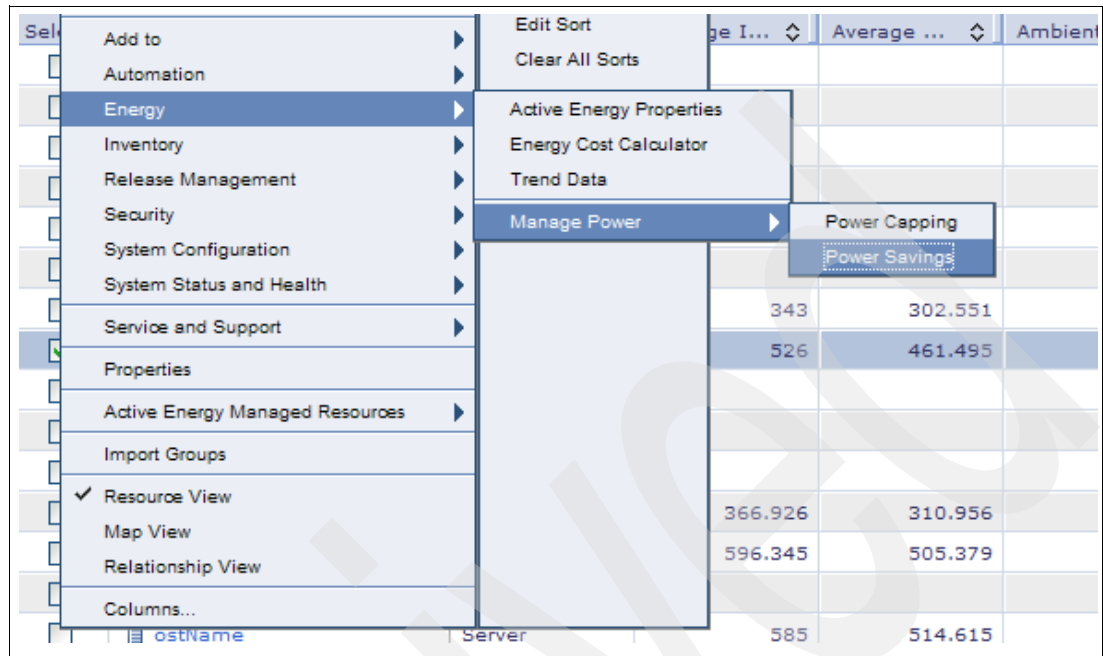

Figure 5-31 Managing power
4. Select one of the systems. Then, click the Actions drop-down list box to navigate through the power management panel. Select **Energy** → **Manage Power** → **Power Savings**, as shown in Figure 5-31.